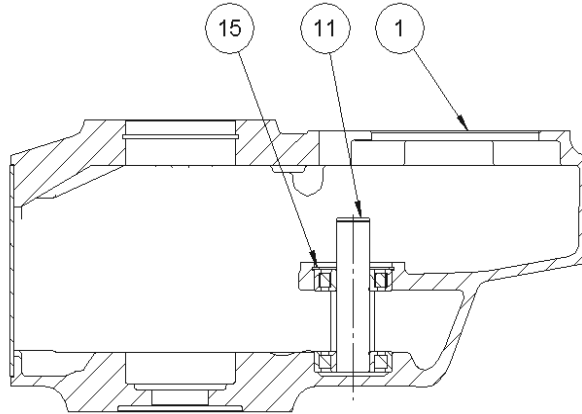

Figure 8.2
8.1.3. Fit the bearing outer ring (13) into the case lower bearing bore. Locate the final pinion shaft assembly (11) inner bearing into the outer ring (13) and then fit the top bearing outer ring (14) into the case. Secure the pinion shaft by means of circlip (15) (see figure 8.2).